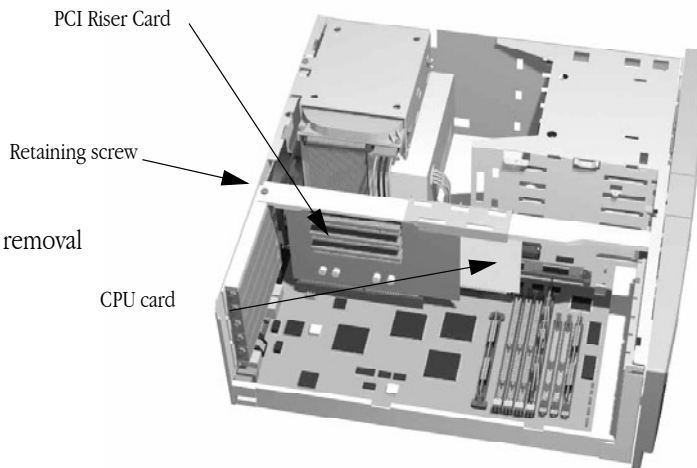

Figure 9: CPU removal
2. Lower the CPU card squarely into the slot so that the notch in the CPU card lines up with the notch in the slot. Slide the contacts straight into the slot and make sure the contacts are firmly seated. (see **Figure 9: CPU removal** on page 12). When properly seated, the contacts on the bottom should not be visible.